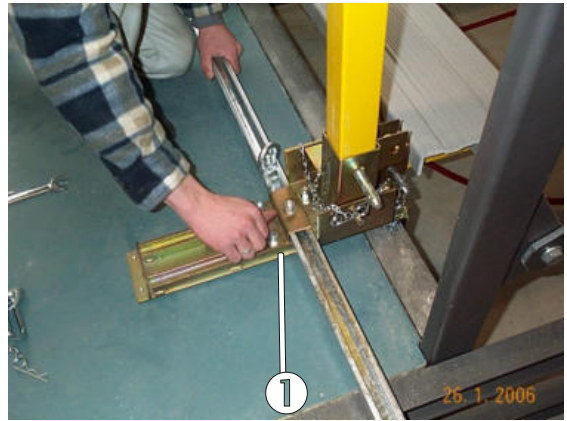

Fig. 18: Attaching the cross beam
In the next step, the lower cross beam is mounted onto the threshold bracket behind the horizontal sides of the triangle to stabilize and connect the triangular structural parts (fig. 18/pos. 1). You must make sure that the cross beam is aligned so that the beam protrudes over the inner side of the right-hand and left-hand shaft or door opening by at least 100 mm. The pre-assembled Z brackets can be moved horizontally along the bar by loosening the T-head bolts.